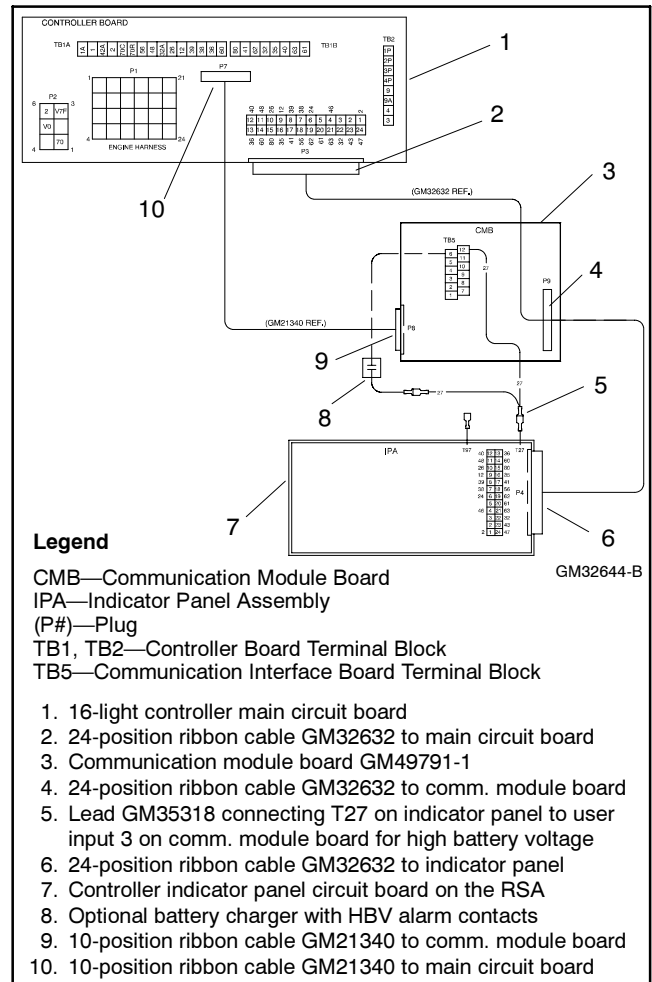
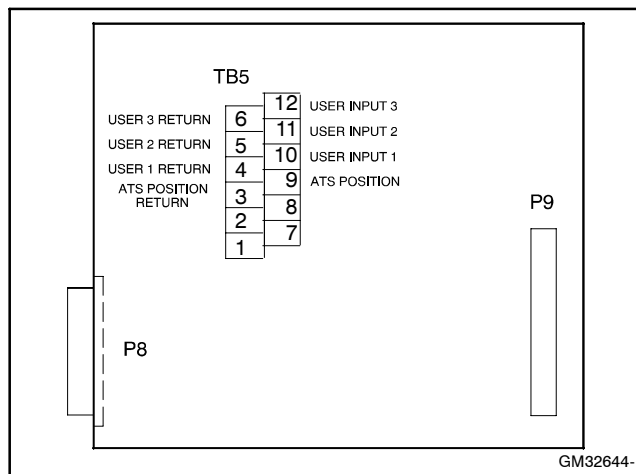

Figure 6 Communication Module Electrical Connections, 16-Light Controller
Figure 8 Communication Module Board
- 2.1 Connect new 24-position ribbon cable GM32632 to the indicator panel circuit board. See Figure 6. The new ribbon cable has three connectors—one at each end and an inline connector. Attach the end connector (nearest to inline connector) to the indicator panel circuit board. The connectors are polarized and attach in one position only. All ribbon connectors shown in Figure 6 are included in the communication module kit.
the harness is securely connected to communication module board terminal TB5-12. See Figure 6 for an illustration of the wiring connection. See Figure 8 and Figure 9 for the communication module board terminal strip location and terminal designations.